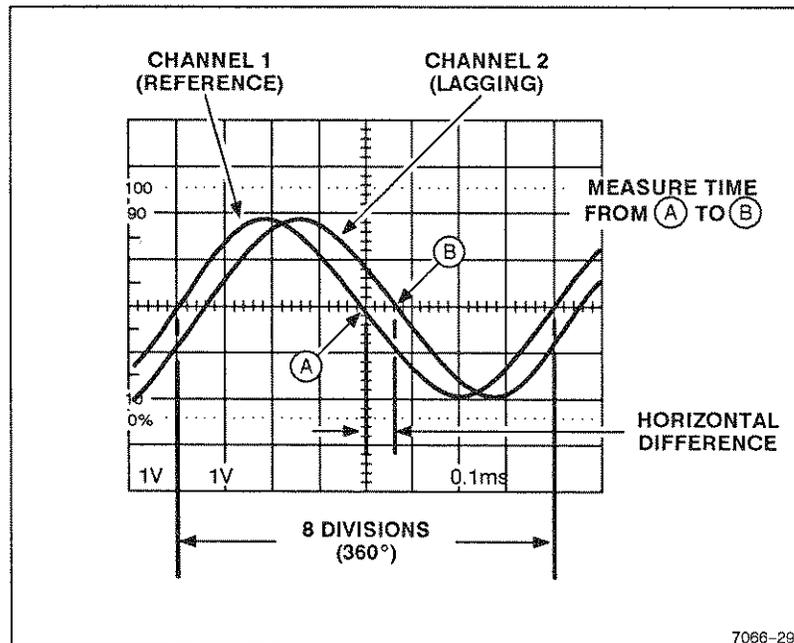
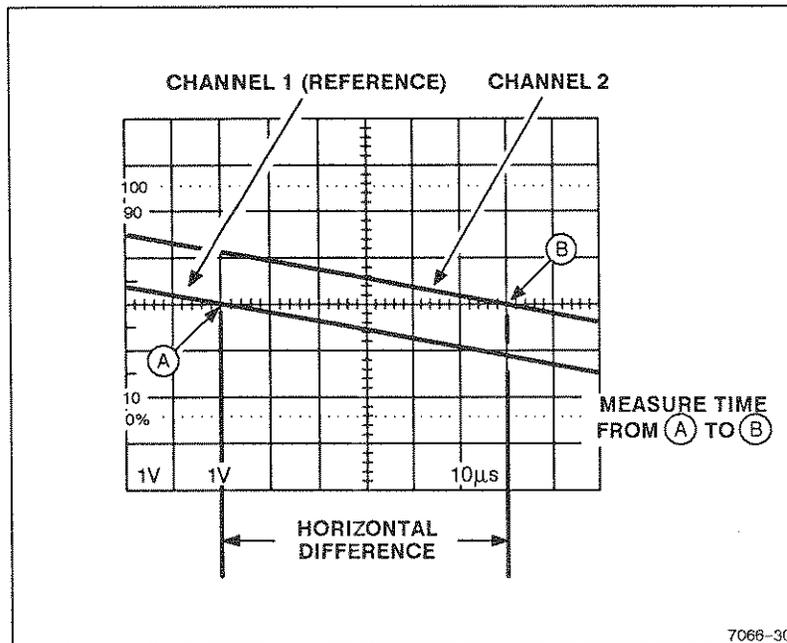

Figure 6-8. Phase difference.
Figure 6-9. High-resolution phase difference.
9. Position the displays and adjust the SEC/DIV Variable control so that one reference-signal cycle occupies exactly eight horizontal graticule divisions at the 50% rise-time points (see Figure 6-8). Each division of the graticule now represents 45° of the cycle ($360^\circ \div 8$ divisions), and the horizontal graticule calibration can be stated as 45° per division.
EXAMPLE: The horizontal difference is 0.6 division with a graticule calibration of 45° per division as shown in Figure 6-8.
EXAMPLE: If the sweep speed were increased 10 times with the magnifier (X10 Magnifier out), the magnified horizontal graticule calibration would be $45^\circ/\text{division}$ divided by 10 (or $4.5/\text{division}$). Figure 6-9 shows the same signals illustrated in Figure 6-8, but magnifying the displays results in a horizontal difference of 6 divisions between the two signals.